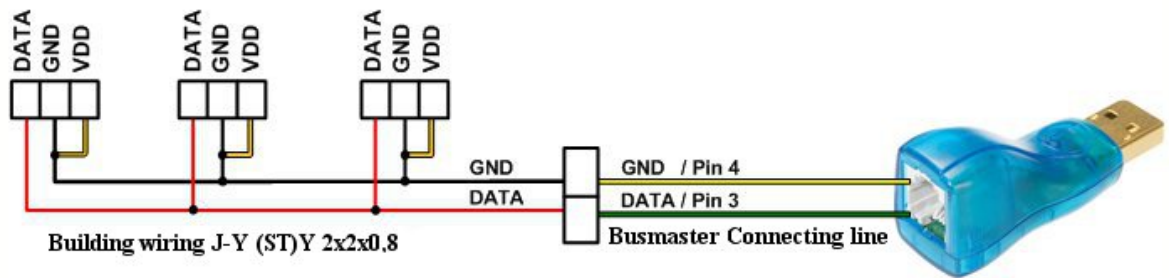

Figure 3: Installation variant 1-Wire sensors with "Parasitic Power"
- Connect 24 V DC to the terminal for the S0 pulse input power supply (**Figure 3, (5)**). No 230V!
- Connect S0 pulse input devices to the S0 pulse input terminals as follows (**Figure 3, (4)**).